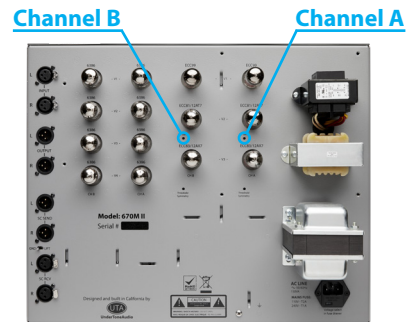

Figure 2: Gain Reduction Match
- Connect the signal from an external source or processing device into the SC RCV - L and SC RCV - R inputs on the back of the UnFairchild (see figure 2).
- b. Locate the two small access holes on the rear panel labeled SC GAIN, positioned between the ECC81 and ECC83 tubes (Figure 2)